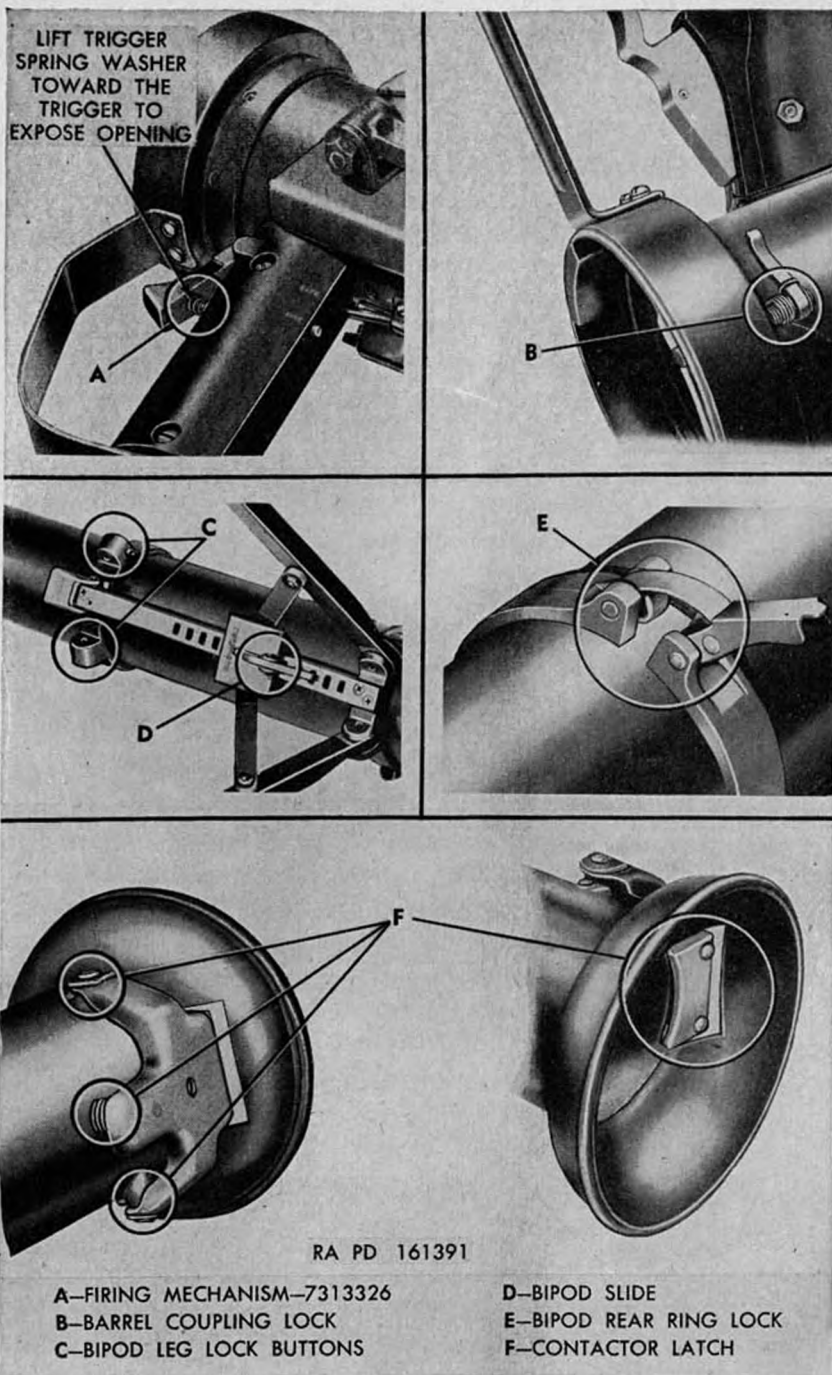

Figure 22. Localized lubrication points (A through F).
c. Contactor Latch Housing (fig. 22). Clean at intervals specified in LO 9-297 (fig. 21). Remove any powder fouling or rust with rifle-bore cleaner, dry-cleaning solvent, or volatile mineral spirits. Crocus cloth may be used to remove deep seated corrosion. Wipe dry and protect with film of lubricant (fig. 21).
f. Bipod Slide (fig. 22). If corrosion has occurred and rifle-bore cleaner, dry-cleaning solvent, or volatile mineral spirits will not clean the slide properly, remove the rust spots with crocus cloth. Wipe thoroughly dry and apply a film of lubricant (fig. 21).